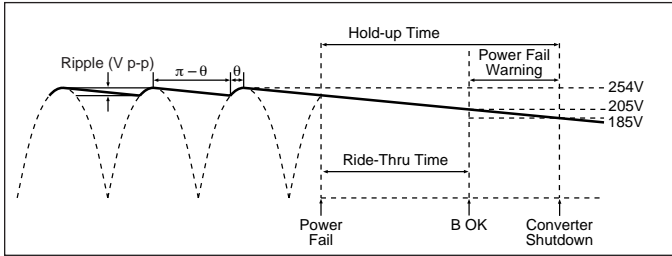
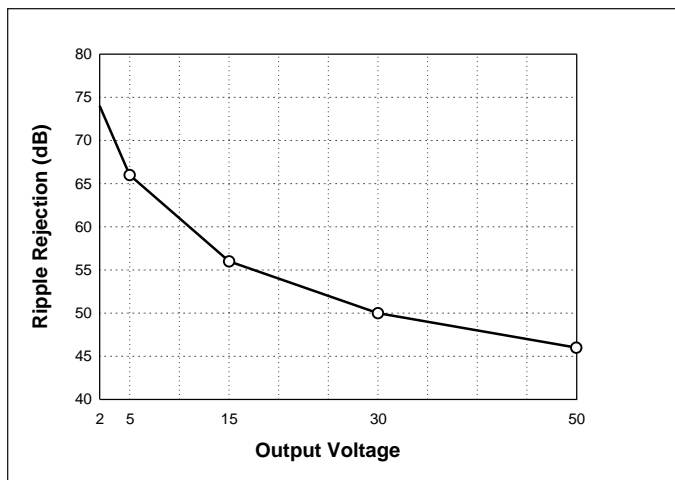

Figure 13—Hold-up time
Figure 17—Converter ripple rejection vs. output voltage
Hold-up Capacitors. Hold-up capacitor values should be determined according to output bus voltage ripple, power fail hold-up time, and ride-through time (see Fig. 13). Many applications require the power supply to maintain output regulation during a momentary power failure of specified duration, i.e., the converters must hold-up or ride through such an event while maintaining undisturbed output voltage regulation. Similarly, many of these same systems require notification of an impending power failure in order to allow time to perform an orderly shutdown.
The power fail warning time (Δt) is defined as the interval between B OK and converter shutdown (EN) as illustrated in Fig. 13. The Bus-OK and Enable thresholds are 205V and 185V, respectively. A simplified relationship between hold-up time, operating power, and bus capacitance is obtained by inserting these constants:
For example, a converter whose output is 15V and nominal input is 300V will provide 56dB ripple rejection, i.e., 10V p-p of input ripple will produce 15mV p-p of output ripple (see Fig. 17). Equation 3 is again used to determine the required capacitance. In this case, V_1 and V_2 are the instantaneous values of bus voltage at the peaks and valleys (see Fig. 13) of the ripple, respectively. The capacitors must hold up the bus voltage for the time interval (Δt) between peaks of the rectified line as given by:
DC-DC Converter. Figure 17 is used to determine the ripple rejection of the DC-DC converter and indicates a ripple rejection of approximately 60 dB for a 12V output. Since the ripple on the bus voltage is 12Vac and the ripple rejection of the converter is 60 dB, the output ripple of the converter due to ripple on its input (primarily 120 Hz) will be 12mV p-p. Note that 2nd Generation converters have greater ripple rejection than either VI-200s or VI-J00s.